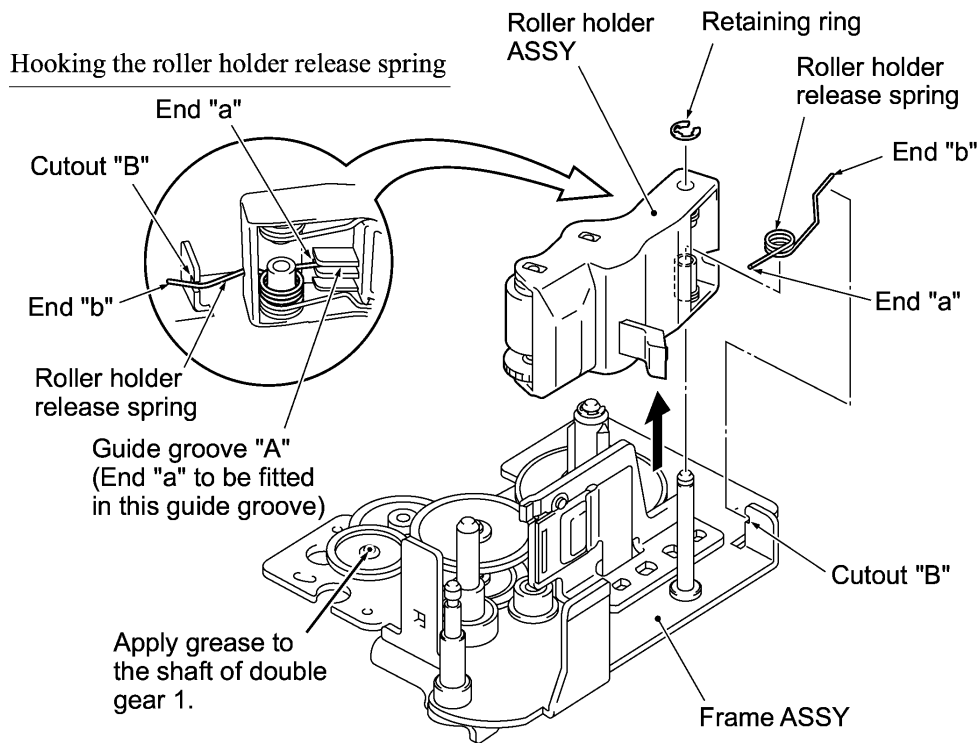

Figure 3.1-8 Removing the Roller Holder ASSY and Release Spring
- When setting the roller holder ASSY into place, first fit end "a" of the release spring in guide groove "A" of the roller holder ASSY. Set the roller holder ASSY to the frame ASSY and then hook end "b" of the release spring on cutout "B" as shown in Figure 3.1-8.